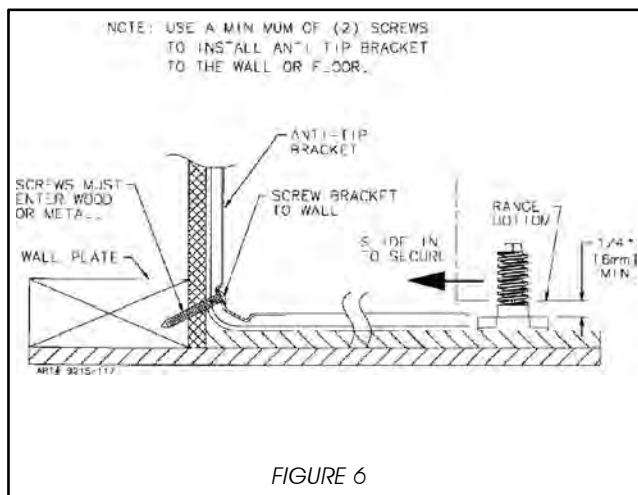

FIGURE 6
1/8" pilot hole in the center of each hole as shown in figure 6. (A nail or awl may be used if a drill is not available). Secure the ANTI-TIP bracket to the wall with the two screws provided as shown in figure 6. Proceed to STEP 3.
- Align the range to its designated location and slide it back into position. Make sure that the leveling foot is fully inserted into and secured by the ANTI-TIP bracket. Note: A minimum clearance of 1/4" is required between the range and the leveling foot that will engage the ANTI-TIP bracket, see figure 6.